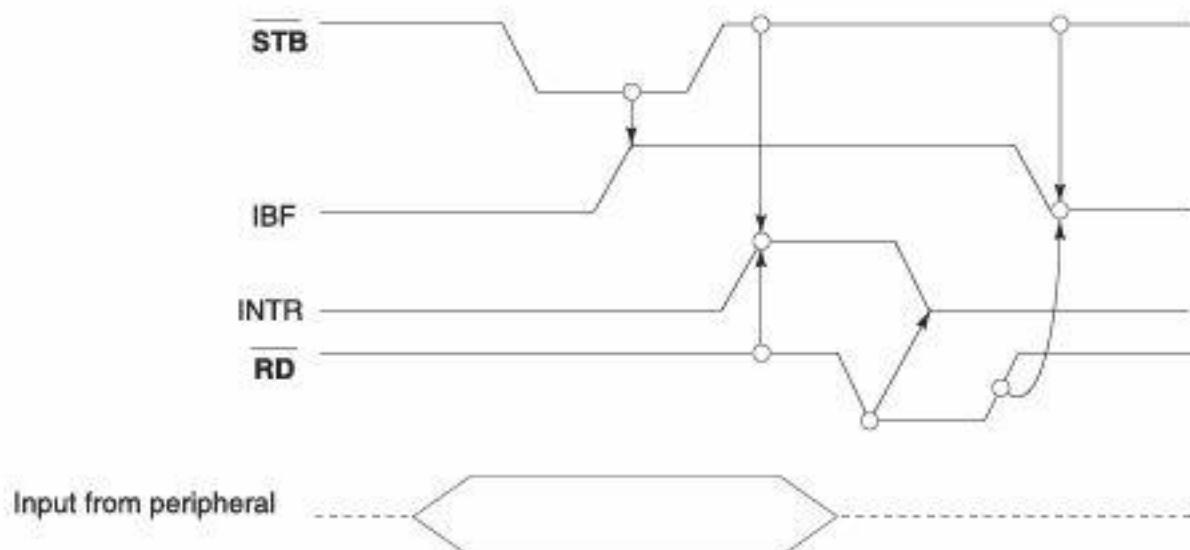

Fig. 5.10 Timing Waveform for Strobed Input with Handshake in Mode 1.
**STB (Strobe Input):** This signal is generated by a peripheral device to indicate that it has transmitted a byte of data. The 8255A, in response to STB, generates IBF and INTR signal as shown in Figure 5.10.